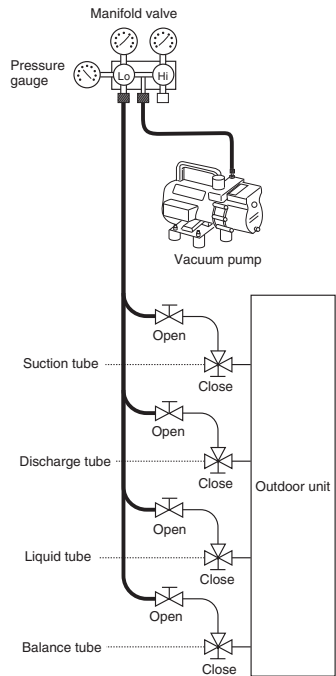

Fig. 6-4
- When the desired vacuum is reached, close the "Lo" knob of the manifold valve and turn off the vacuum pump. Confirm that the gauge pressure is under -101 kPa (-755 mmHg, 5 Torr) after 4 to 5 minutes of vacuum pump operation. (Fig. 6-4)